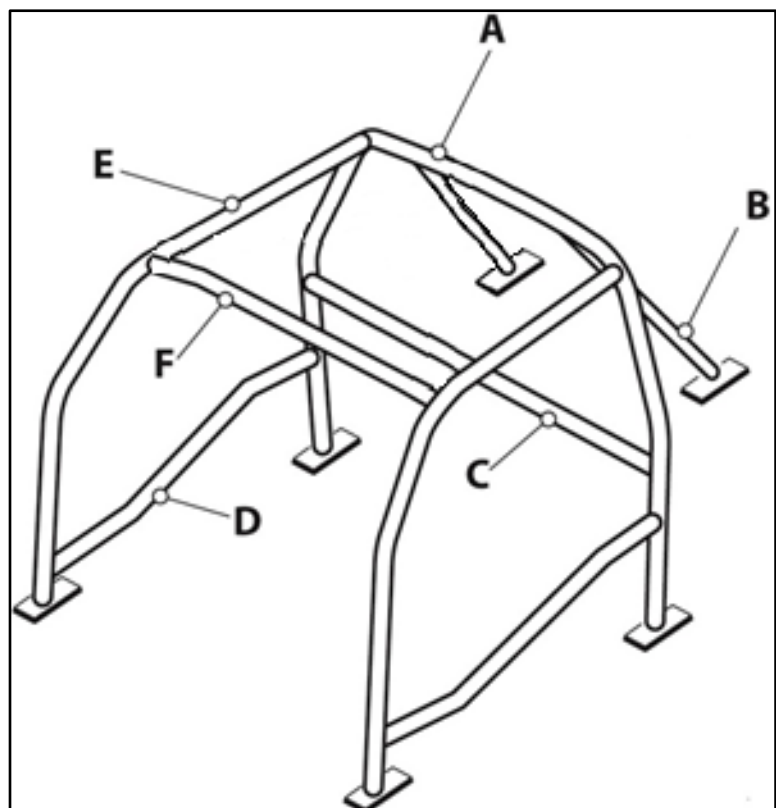

Figure 3: Six Point Rollage.
9.1 A Six Point Rollage (Figure 3) is the minimum rollage specification that is required in the following vehicles.
9.2 A Six Point Rollage must have the following components, in the positions illustrated in Figure 3, as a minimum.